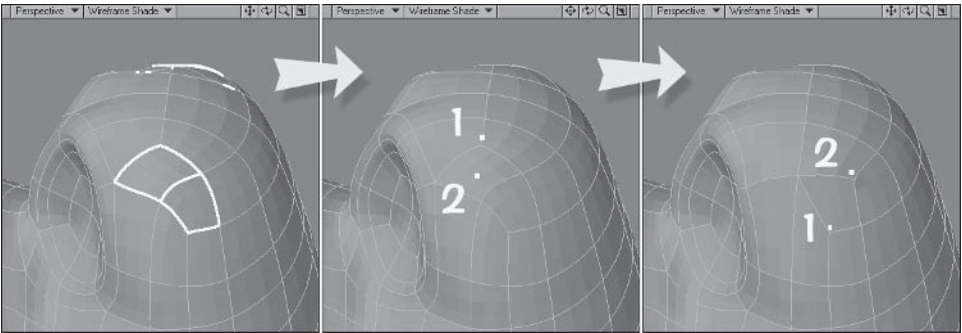

Figure 5.3-38. Adjusting polygon flow.
- Now we need to clean up the polygon flow. Select the polygons shown in Figure 5.3-38. Turn off **Symmetry** and change to **Points** mode. **Weld** the points shown in Figure 5.3-38 on each side of the model. Change back to **Polygons** mode and **Delete** the selected polygons.